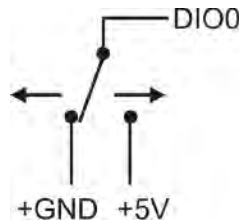

Figure 11. Schematic showing switch detection by digital channel DIO0
When you configure the digital bits for input, you can use the OM-USB-TEMP digital I/O terminals to detect the state of any TTL-level input. Refer to the schematic shown in Figure 11. If you set the switch to the +5V input, DIO0 reads *TRUE* (1). If you move the switch to GND, DIO0 reads *FALSE* (0).